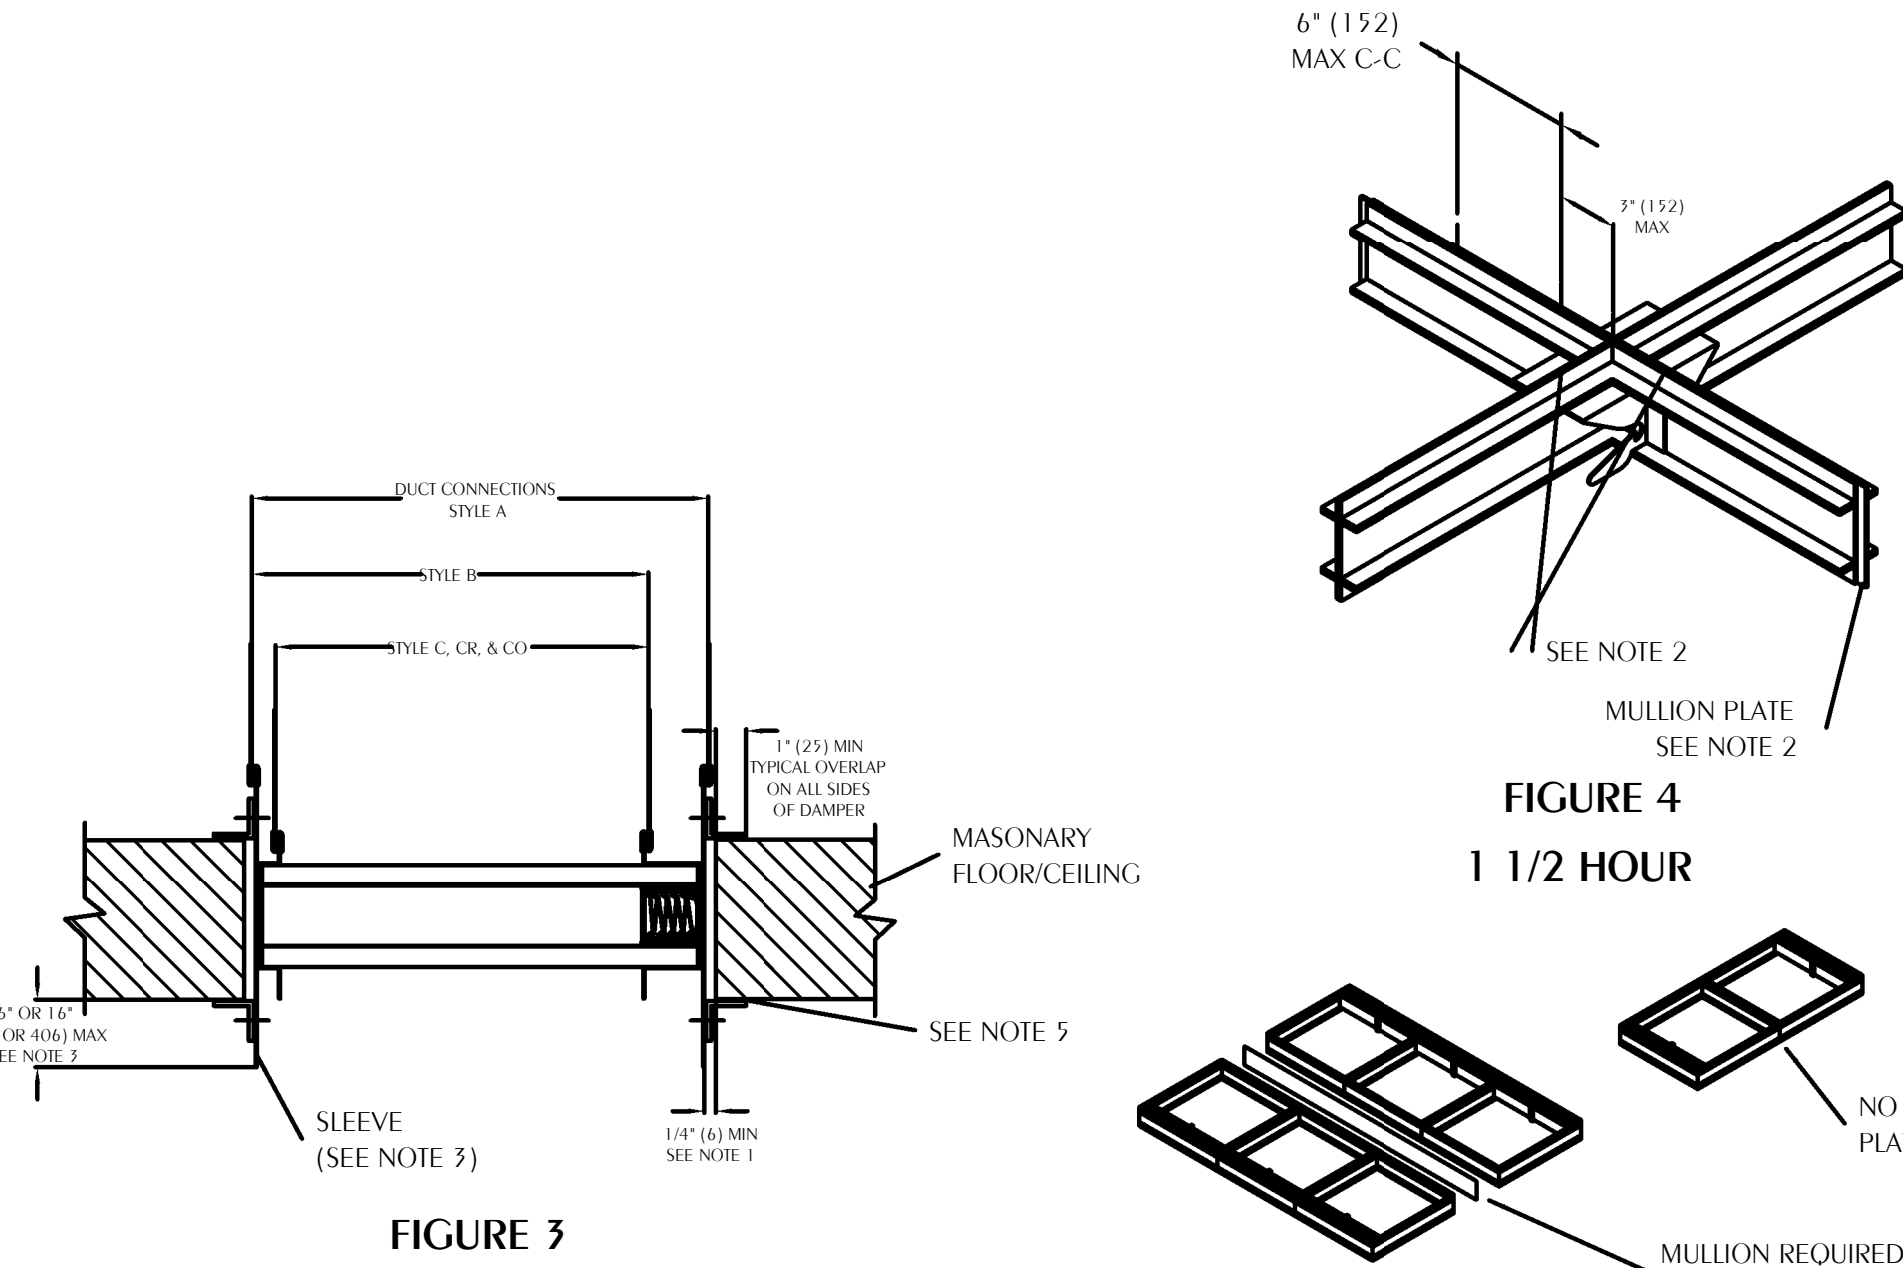

FIGURE 3
Use No. 10 (M5) bolts or screws, 3/16" (5) spacers, tack welds or spot welds as depicted in figures 3 and 4 and spaced as follows when joining individual dampers to make multiple section damper assemblies or when fastening damper to the sleeve: